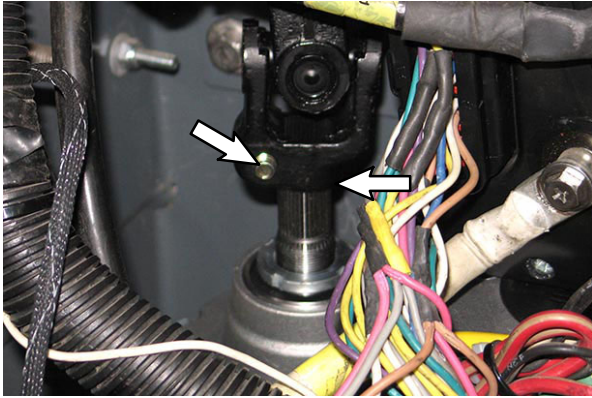

FIG. 12
5. Install bottom of the power steering top shaft onto the power steering motor (4). (Fig. 12)